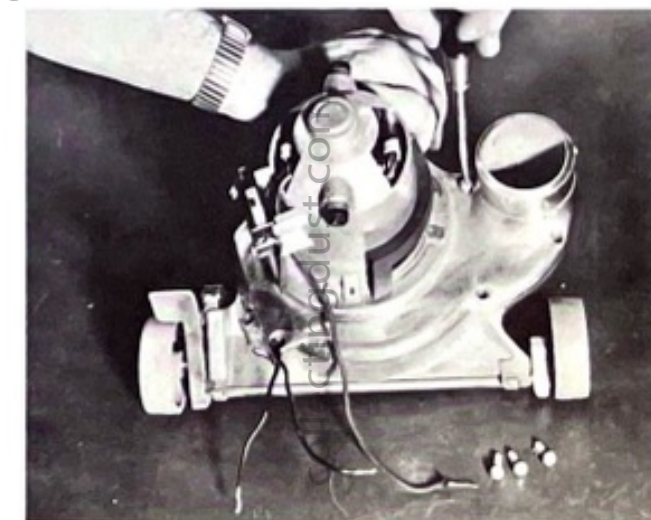

Figure 1-44. Removing rear fan housing screws.
d. Remove the four screws (45) as shown in figure 1-44 and the one longer screw (57, fig. 1-3) in front under the headlight cap, that secure the fan housing (56) to the motor housing casting (40).